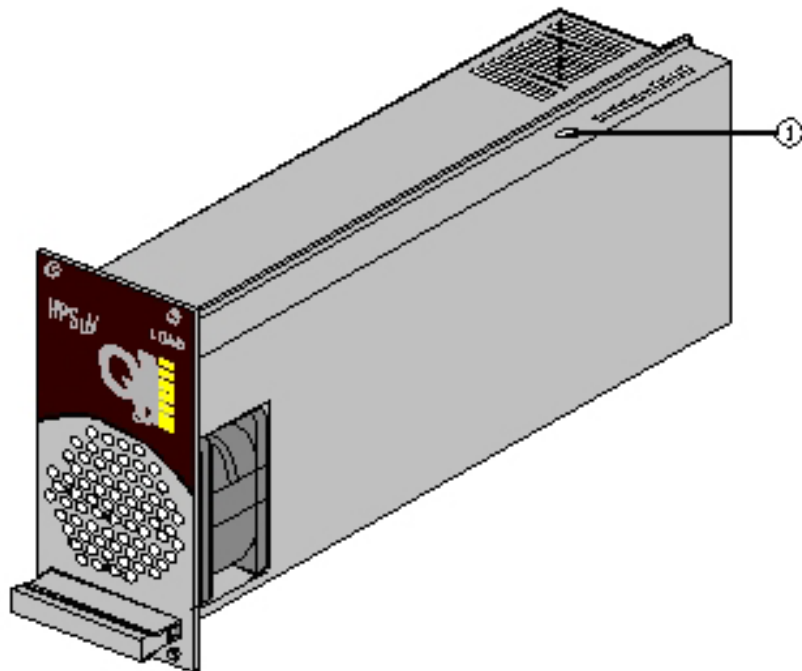

Figure 7: Rectifier Calibration Point
1. Access the trimmer (see no. 1 in Figure 7) via the small opening at the top of the cover.